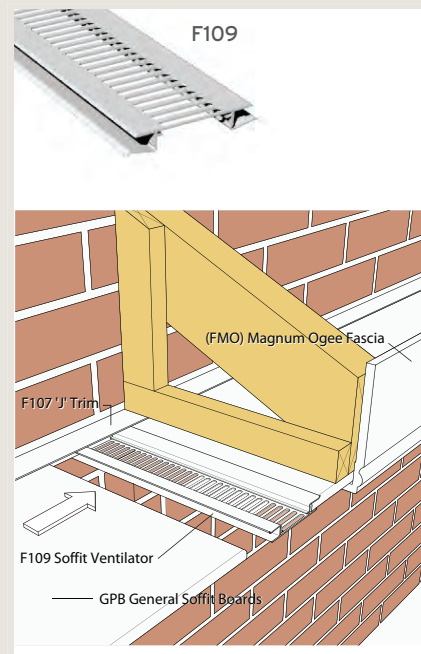

Fig 20f. shows F109 Soffit Vent mounted in a General Purpose board, in conjunction with FMO fascia.
**Figure 20f** shows an F109 Soffit Ventilator mounted in a standard GPB General Purpose Board board, in conjunction with a Magnum fascia. This ventilator can be positioned at any intermediate horizontal position to suit the construction of the aesthetic requirements.